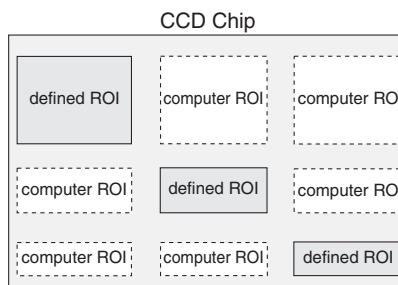
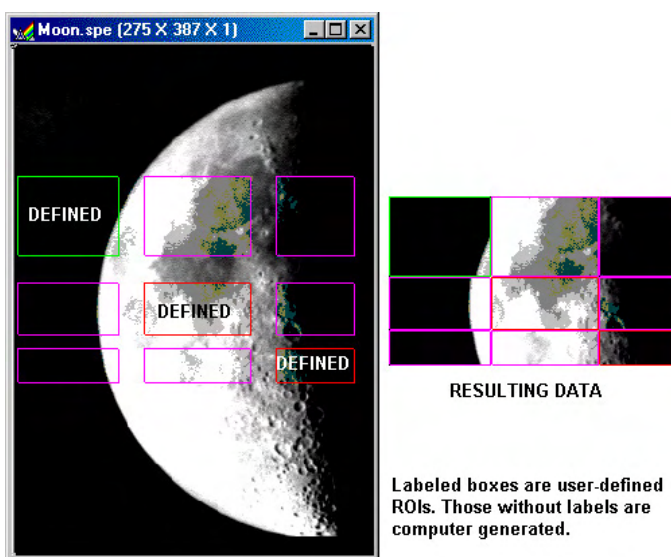

Figure 135. Imaging Mode Multiple ROIs with Different Widths
Figure 136. Multiple Imaging ROIs and Resulting Data
Figures 131-135 show possible ROI patterns. Note that the patterns in Figure 135 demonstrate varying size ROIs, a feature of Imaging Mode.
2. Once the first pattern is defined, all subsequent patterns are automatically assigned the same X-axis starting, ending, and grouping values. The first pattern need not be full width — any values in the chip range can be entered, but once stored, those values will apply as well to subsequently defined patterns. The figures below illustrate possible ROI patterns. Note the additional functionality available in Imaging Mode (Figure 135).
In this mode, ROIs can have varying sizes and degrees of overlap. However, when you define multiple ROIs like those in Figure 135, the computer automatically generates six “side-effect” ROIs in the regions where *extensions* of the strips and columns of the defined ROIs intersect. Both the defined and computer generated ROIs will be stored and the data for both will be displayed (see Figure 136). The side-effect ROIs are necessary to accommodate hardware limitations.